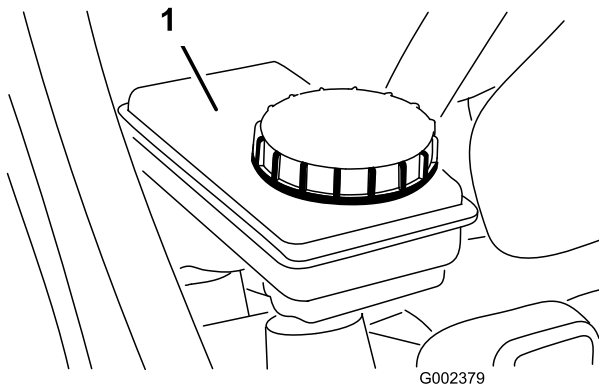

Figure 19
3. Check the brake fluid level (Figure 19).
- A. Clean the area around the cap (Figure 19).
- B. Remove the reservoir cap (Figure 19).
- C. Fill the reservoir to the Full line on the reservoir with the specified brake fluid (Figure 19).